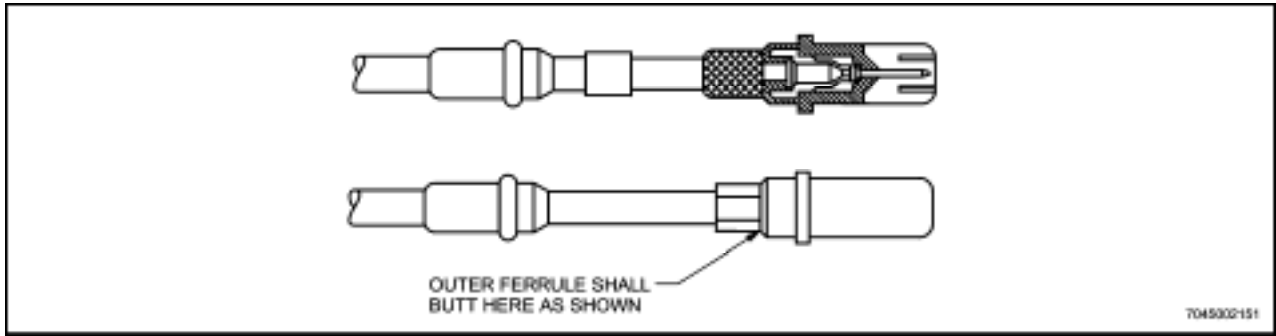

Figure 12-45 Final Assembly and Outer Ferrule Crimping
- f. Install the centre contact in the body assembly while sliding the inner ferrule underneath the wire braid. (See Figure 12-45.) The centre contact shall be inserted until it is locked into place in the body assembly. A 1.5 kilogram min to 2.3 kilogram max pull shall be exerted on the cable to assure that the contact is securely locked in place.